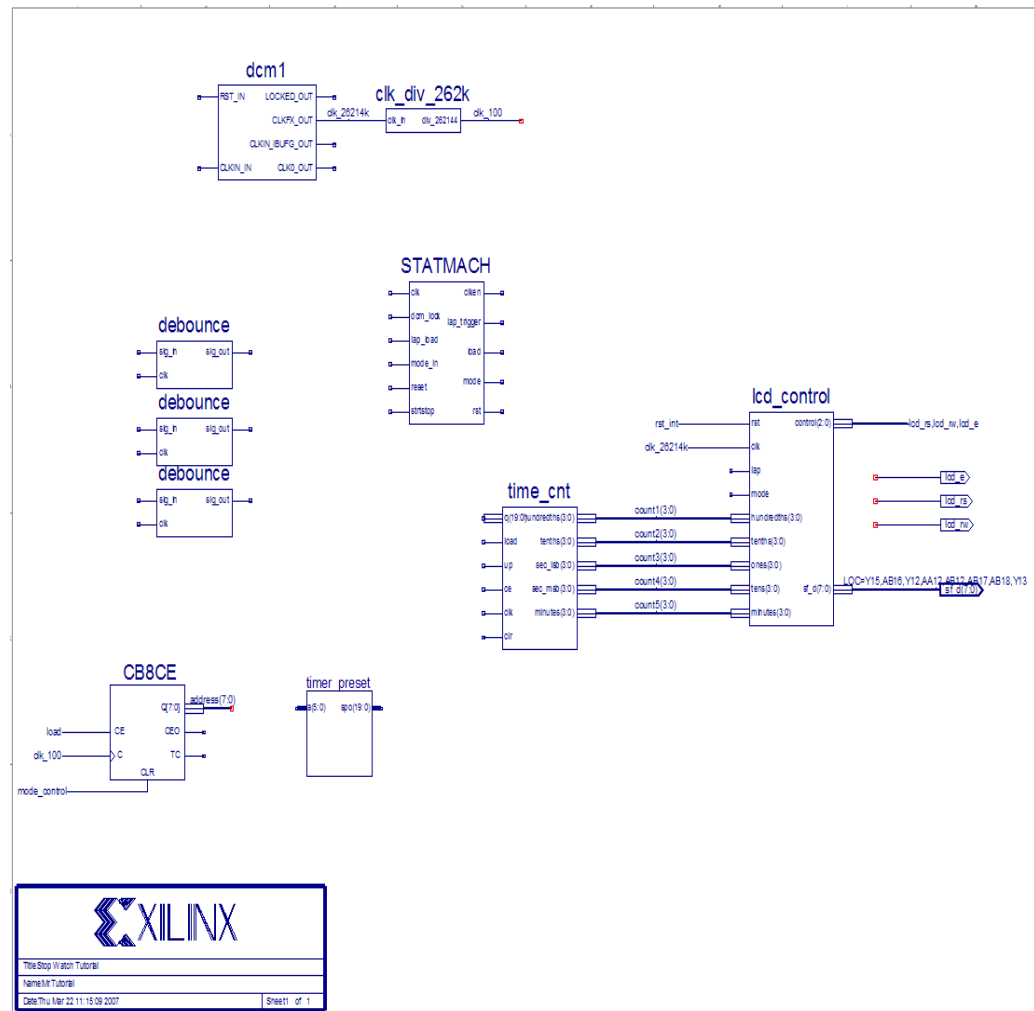

Figure 3-28: Placing Design Macros
4. Select the appropriate symbol, and add it to the stopwatch schematic in the approximate location, as shown in Figure 3-28.